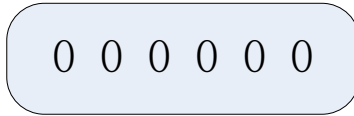
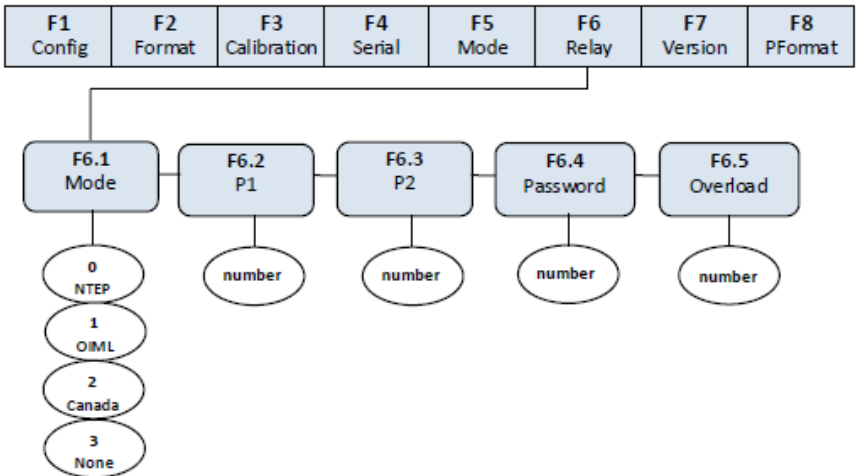

Fig. 10.2 Editing Procedure for Numerical Values
Fig. 12.1 Relay Output Menu
- 2) Press  until the display shows “F3” (see Fig. 10.2). Press  to go to zero calibration mode. Display shows “F3.1”.
- 4) When display shows “F3.2”, place test weight on the scale and press  to show the test weight value. Follow Fig. 10.2 to input the test weight value, then press  to save the value and go to the next menu. Display shows “F3.3”.
- 2) Press  until the display shows "F3" (see Fig. 10.2). Press  to go to zero calibration mode. Display shows "F3.1".
- (3) Press  when display shows "F5.2". Display shows and asks a code number for your count items average weight settings. The code number will be saved in the memory and represents the code for your count items average weight settings. The code numbers are from 01 to 99. The code "00" is reserved for Fast Setup of Count Items Average Weight ( refer to Section 7.3.8 ). Follow the procedure in Fig. 10.2 to input and edit the code number. Press  to save the code number and proceed to the next menu. The display shows "F5.3".
- (4) Remove all the weight from the scale platform when display shows "F5.3". Press  to zero the scale. Display shows "CAL" while processing the zeroing operation. When completed, display shows "F5.4"
- (5) Press  when display shows "F5.4". Display shows the sampling quantity of the count items. Use ,  keys to specify the sampling quantity. Place the samples in the platform of the scale. The quantity of the samples must be the same with what you specified in the sampling quantity. Press  to proceed to the next menu. Display shows "F5.5".
- (6) Press  when display shows "F5.5". Display shows "CAL" while processing the average weight setting. When completed, there are two (2) possible outcomes :
- (1) Turn on the SW2 switch to set indicator to the Configuration mode (display shows “F1”).
- (2) Press  $\triangleright$  until display shows “F6” (see Fig. 12.1). Press  $\nabla$  to go to the Relay Output Menu. Display shows “F6.1”.
- (3) When the display shows “F6.1”, press  $\triangleright$  to go to the F6.2 Menu and display shows “F6.2”.
- (4) When display shows “F6.2”, press ▼ and display shows the value of Relay 1 setting. Edit Relay value according to editing procedures in Fig. 10.2. When completed, press ○ to store the value and return to F6.3 Menu. Display shows “F6.3”.
- (5) When display shows “F6.3”, press ▼ and display shows the value of Relay 2 setting. Edit Relay value according to Fig. 10.2. When completed, press ○ to store the value and return to F6.1 Menu. Display shows “F6.1”.
- (6) Turn off the SW2 switch to exit from Calibration mode and enter into Weighing Mode.